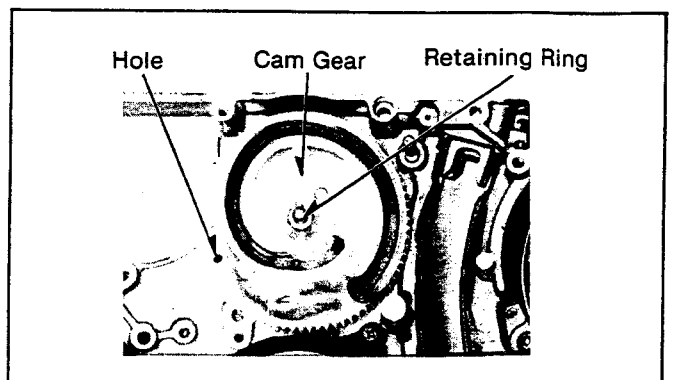

Fig. 38 Assembly and Adjustment of Gears and Rod-(2)
1. Make sure the position of Loading Arm as Fig. 38 before proceduring this adjustment.